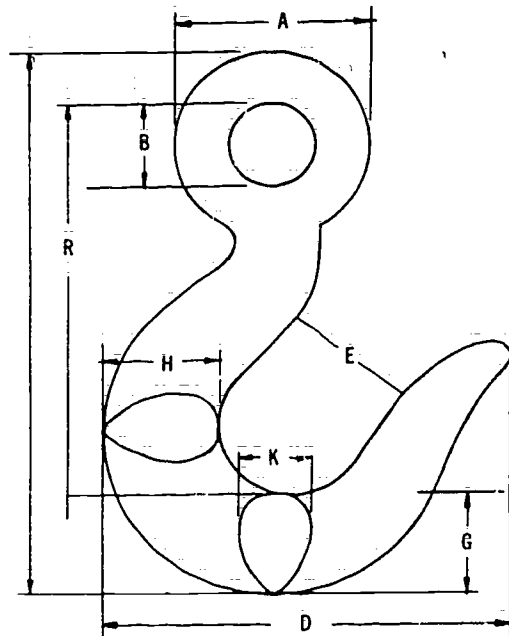

Figure 7-79. Standard Eye Hook
1. **A Standard Eye Hook** is illustrated in Figure 7-79. The different dimensions are labelled for reference to the dimension and load charts to follow.